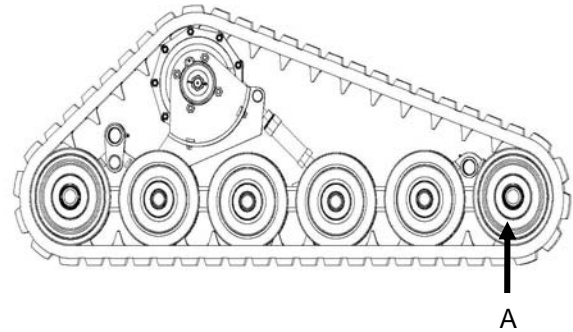

Figure 12-11
2. Locate the wheel marked “A” in fig. 12-11.